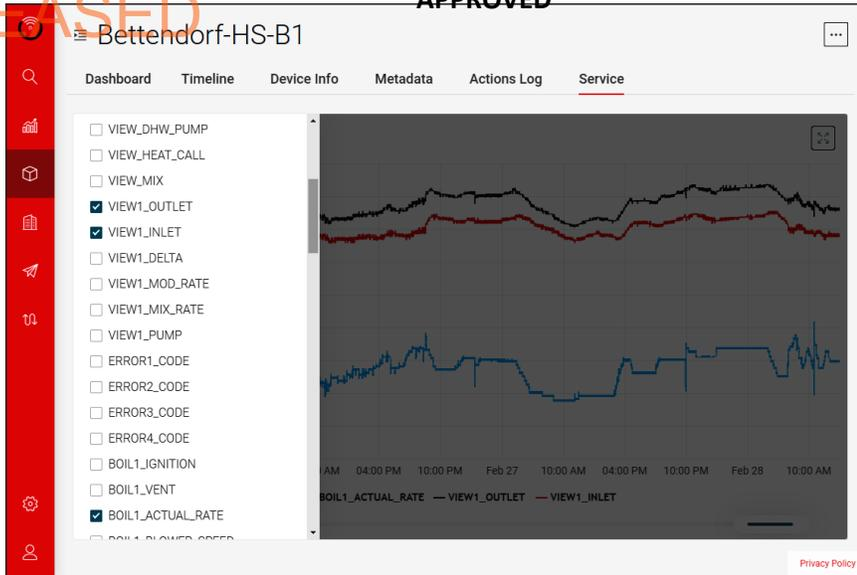

Figure 80. Recent Data
6. Click on the graph area and the latest data will be shown. See **Figure 80**.